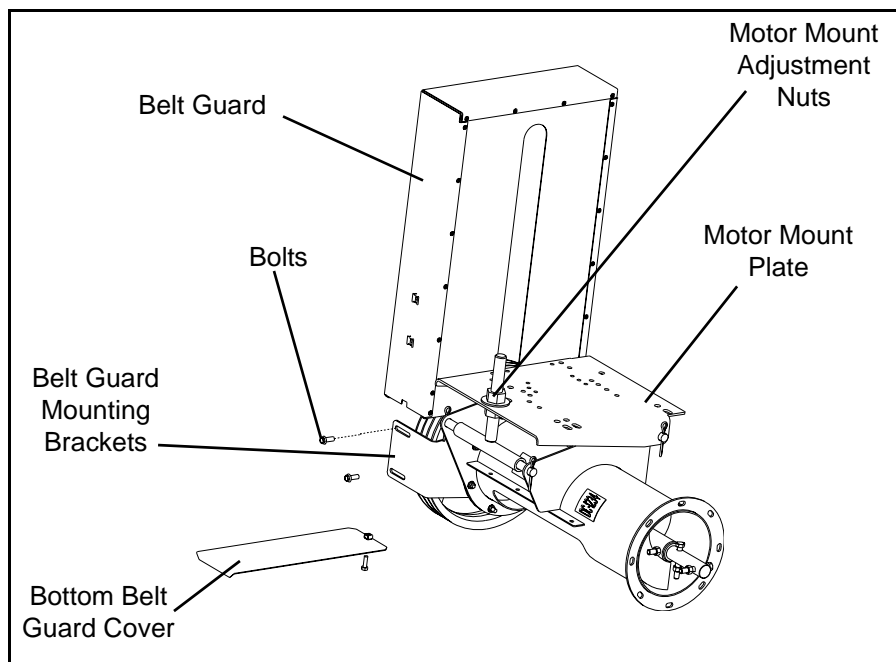

Figure 4L
3. Align the motor shaft and the Flight Drive Shaft in the Belt Guard's slot, making sure that the Belt Guard DOES NOT contact either pulley, and tighten down the Belt Guard Mounting Brackets to the Bearing Plate. (See Figure 4L).